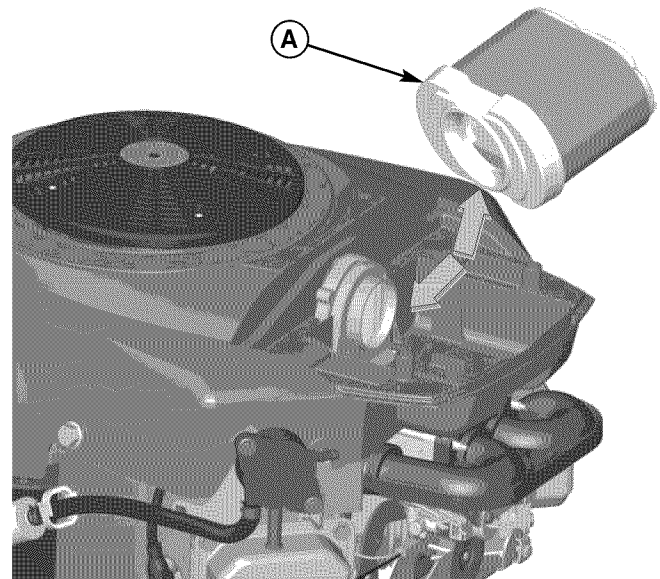

**Figure 32. Air Filter Cover**
1. Loosen the air filter cover screws (A, Figure 32) and remove the air filter cover.
6. Reinstall the air filter cover and tighten the screws (A, Figure 32).